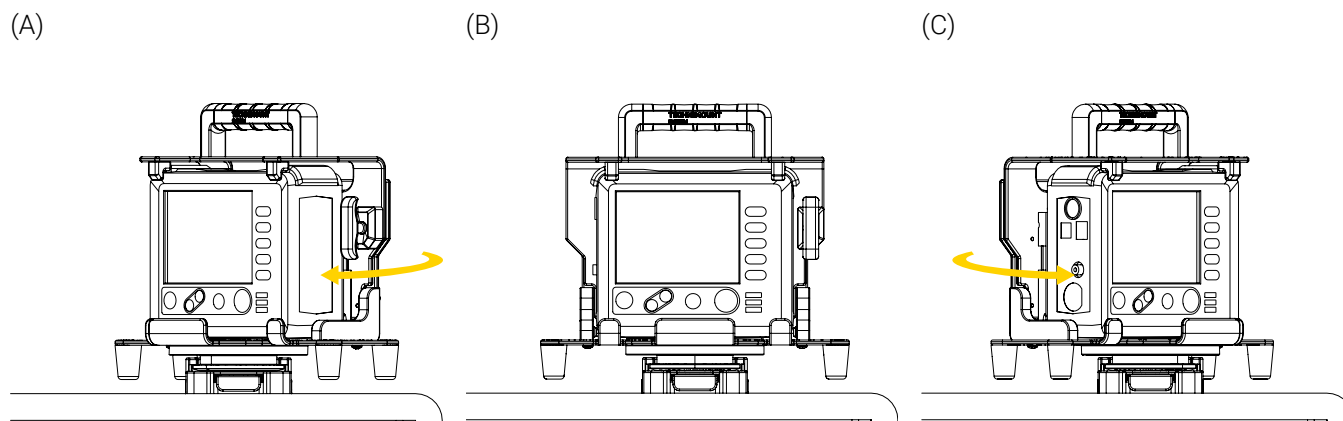

Figure 16: Rotating the medical device
3. For mounting brackets that have a bottom micro disc, turn the medical device up to 360° clockwise or counterclockwise to the desired position (Figure 16) using the front handle and/or the top handle.